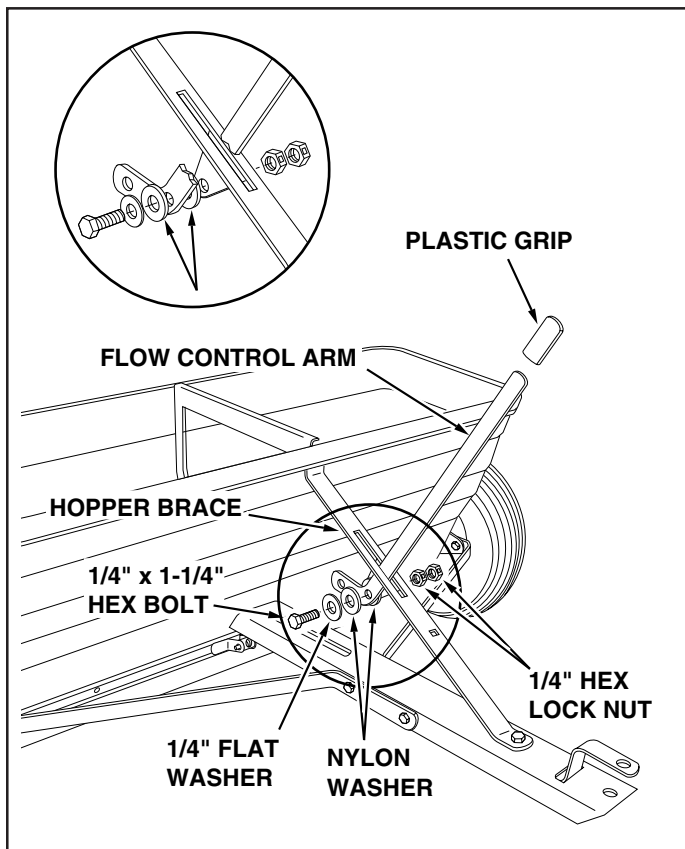

FIGURE 4
8. Assemble the plastic grip onto the end of the flow control arm as shown in figure 4.
9. Attach the flow control arm to the plate on the underneath side of the hopper brace as shown in figure 4, using a 1/4" x 1-1/4" hex bolt, a 1/4" flat washer, two nylon washers and two 1/4" hex lock nuts. The nylon washers should be placed on each side of the flow control arm, with one washer between the arm and the plate. **Tighten** the first hex lock nut until there is noticeable resistant when moving the flow control arm. **Tighten** the second hex lock nut.